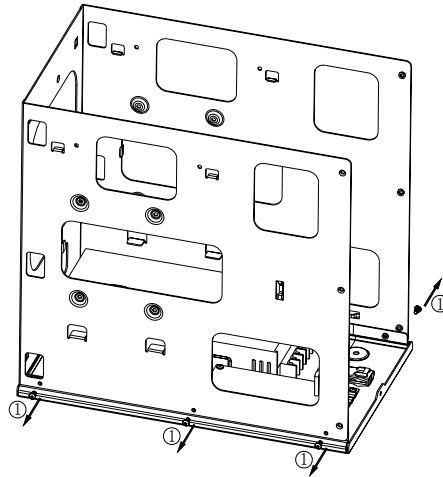

Figure 8
1. Remove the six screws (M3.0X6.0) that secure the housing using a screwdriver, to remove the housing ①, shown as Figure 8.